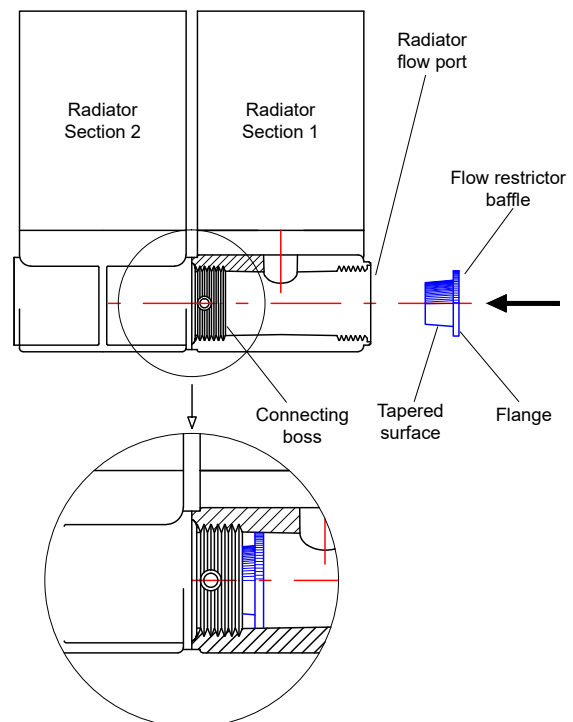

Figure 3-2: Fitting flow restrictor baffle
4. With the tapered end of the baffle facing towards the inside of the radiator flow connection, push the baffle through the flow port of the radiator and through the first section of the radiator until it is fitted securely into the connecting boss between the end of the first section and start of the second section of the radiator. Refer to Figure 3-2 for guidance.